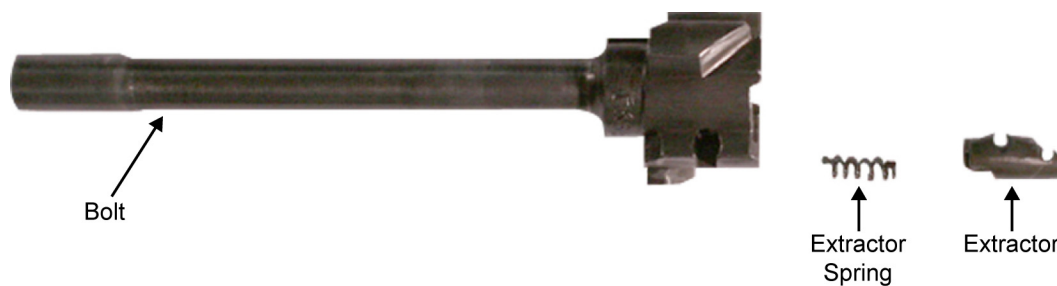

Figure 6. Install the Extractor Spring and Extractor.
1. Install the extractor and extractor spring into the bolt. Ensure the lip of the extractor is facing towards the center of the bolt. Refer to Figure 6.